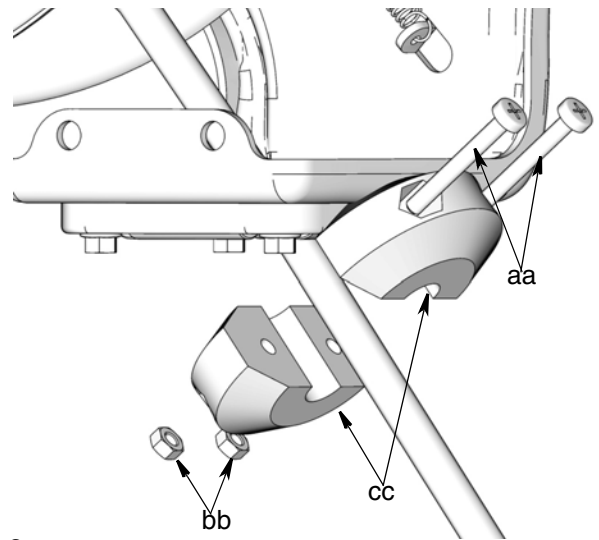

FIG. 8
8. Lock reel. Remove ball stop from cord and put all the parts in a safe place to reinstall later (FIG. 8).